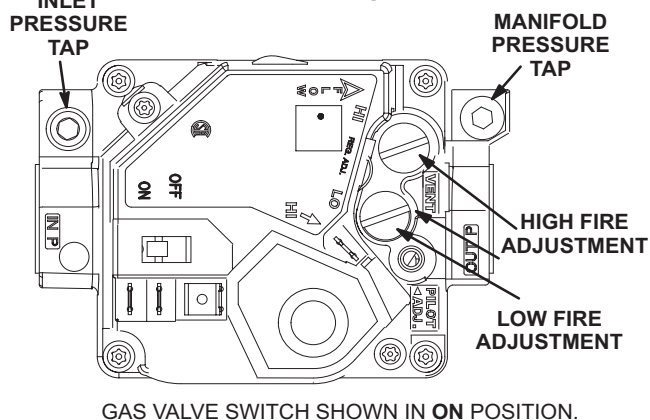
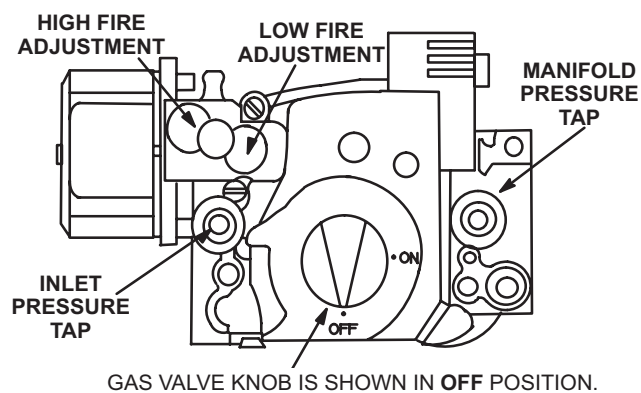

FIGURE 30
FIGURE 31
Gas Valve Operation for Honeywell VR8205Q/VR8305Q and White Rodgers 36H54 (FIGURE 30 and FIGURE 31).
- 6 - Turn gas valve switch to **OFF**. See FIGURE 30. On Honeywell VR8305Q gas valves, turn the knob on the gas valve clockwise to **OFF**. Do not force. See FIGURE 31.
- 7 - Wait five (5) minutes to clear out any gas. If you then smell gas, **STOP!** Immediately call your gas supplier from a neighbor's phone. Follow the gas supplier's instructions. If you do not smell gas, go to the next step.
- 8 - Turn gas valve switch to **ON**. See FIGURE 30. On Honeywell VR8305Q gas valves, turn the knob on the gas valve counterclockwise to **ON**. Do not force. See FIGURE 31.